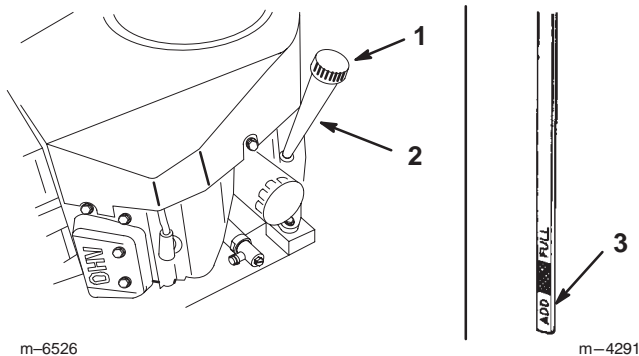

Figure 16
2. Clean around the oil dipstick (Fig. 16) so that dirt cannot fall into the filler hole and damage the engine.
3. Unscrew the oil dipstick and wipe the metal end clean (Fig. 16).
4. Slide the oil dipstick fully into the filler tube, but do not thread it onto the tube (Fig. 16). Pull the dipstick out and look at the metal end. If the oil level is low, slowly pour only enough oil into the filler tube to raise the level to the **Full** mark on the dipstick.
8. Clean around the oil dipstick and unscrew the cap (Fig. 16).
9. Slowly pour approximately 80% of the specified oil into the filler cap (Fig. 16). Refer to Servicing the Engine Oil, page 22.